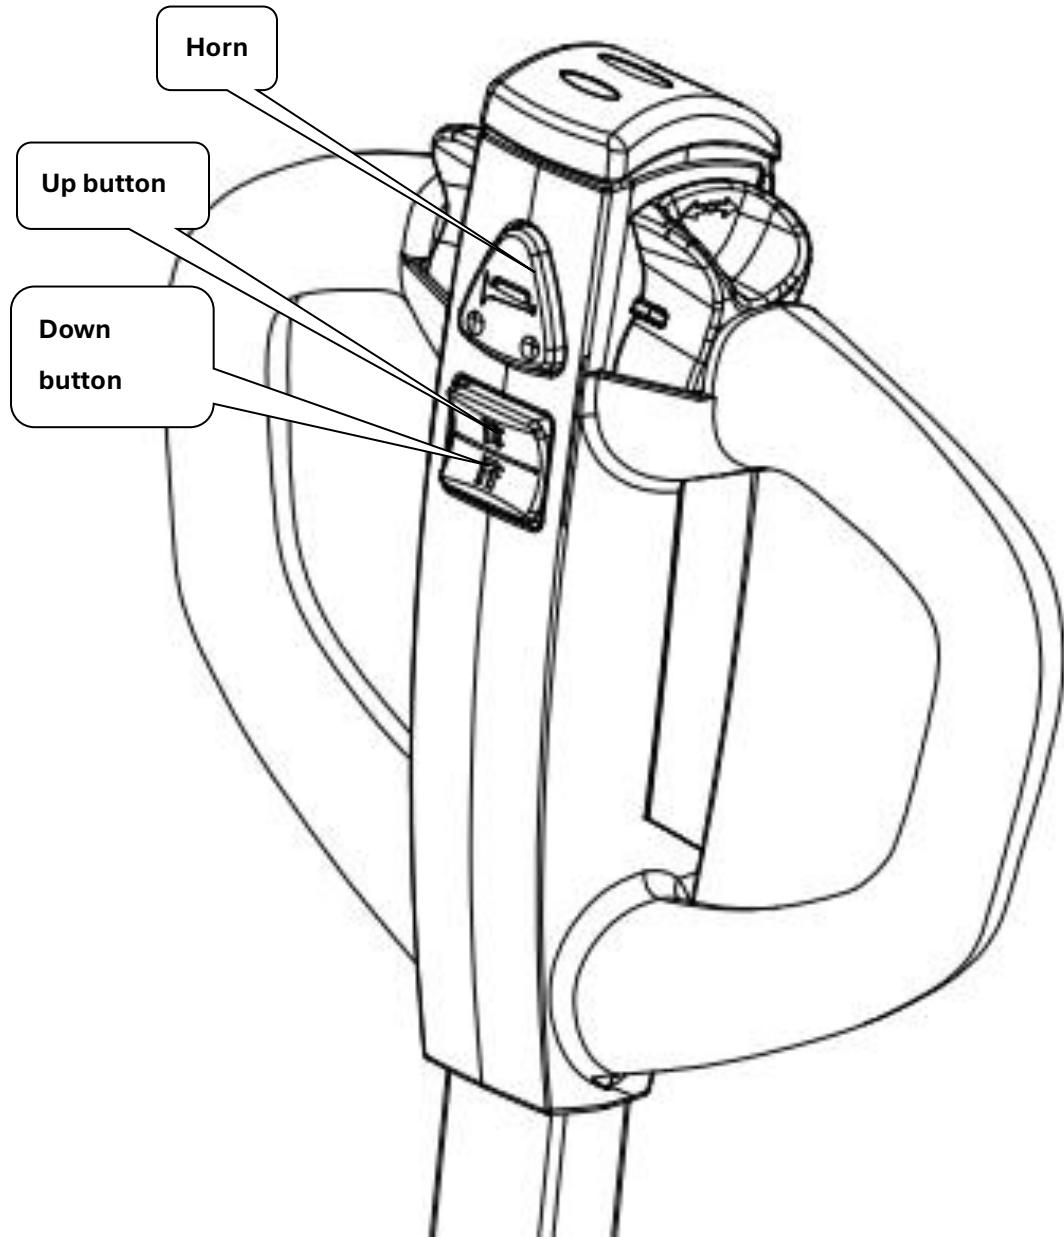

Figure 2-3
4.4 Lift and drop switches and horn buttons, as shown in Figure 2-3